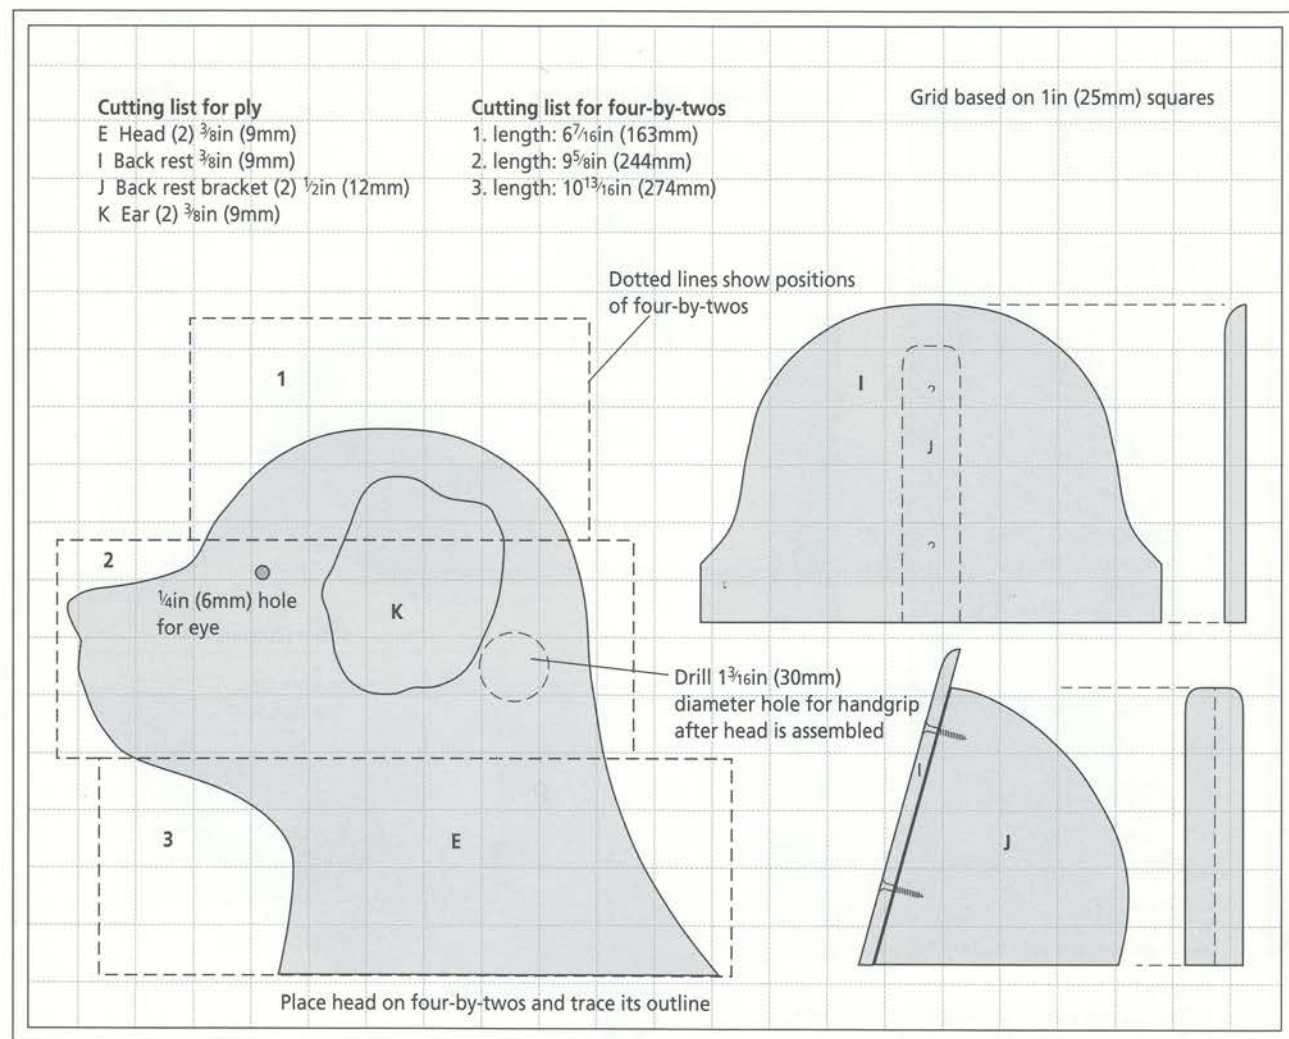

Fig 20.3 The dimensions of E, I, J and K.
pieces of ply (E). Fig 20.3 shows the arrangement of the four-by-twos on a part E. Fig 20.5 shows the completed sandwich.
Saw the ears (K) to shape (see Fig 20.3). Round off the edges. Glue and pin the ears (K), one to each side of the head, in the positions shown in Fig 20.3. Fig 20.6 shows the head shaped and sanded and the eyes and ears fitted.
Shape and sand the upper edge and sides of I to the section shown in Fig 20.3. Drill and countersink the two screw holes for attaching I to J. Glue and pin together the two J parts. When dry, sand the edges of the combined J part to a small radius to remove the sharp corners. Glue and screw I to J. Fill the screw holes with wood filler and sand smooth. Prime and paint the completed assembly.